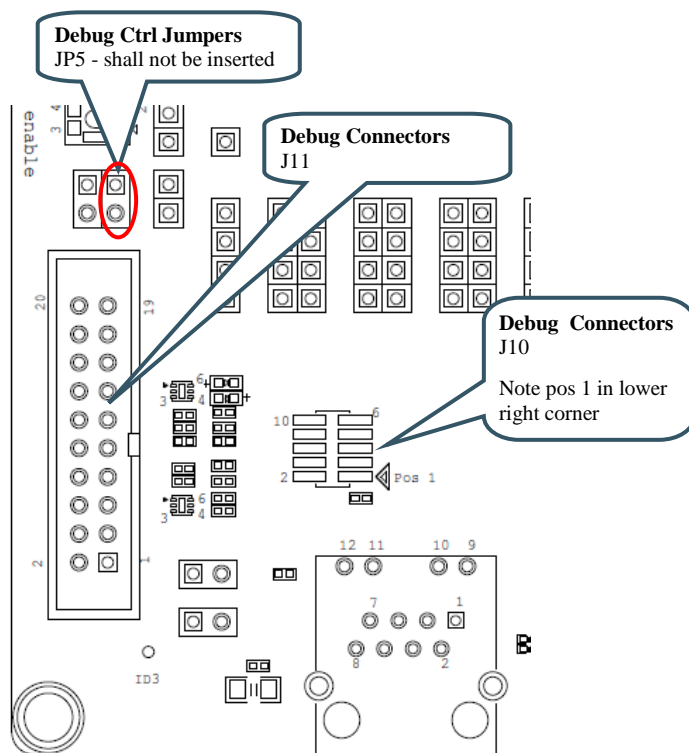

Figure 20 – Debug Interfaces
- J10 – this is a Cortex Debug connector. It is a 2x5 pos, 50 mil pitch connector without a shroud. Be careful when inserting the debug probe cable. Position 1 is specifically marked on the PCB silkscreen. It is located in the lower right corner, see Figure 20 below. The connector supports both the SWD and JTAG interfaces.